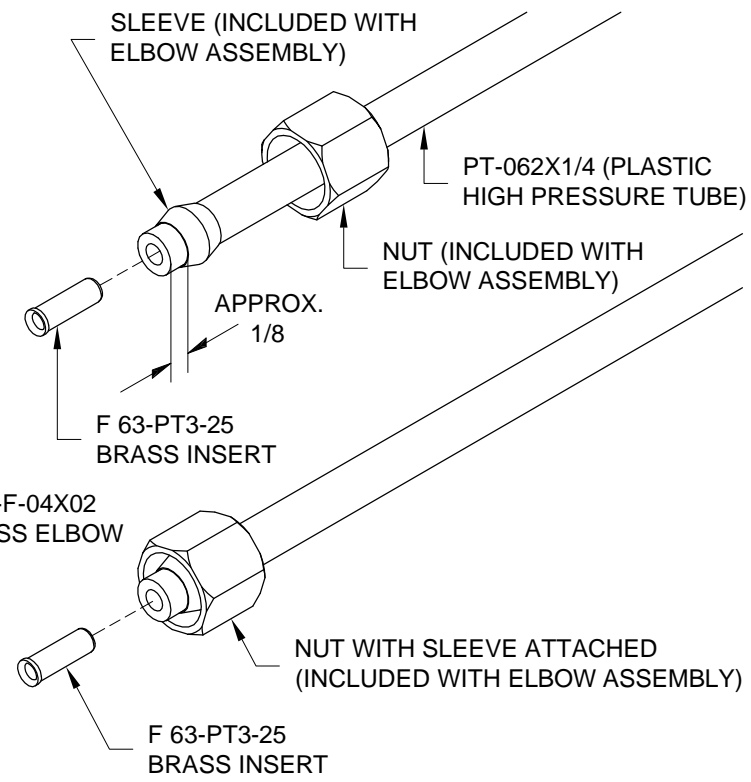

FIGURE 1: BRAKE LINE END FITTINGS
Step 1: Slide the nut and sleeve over the plastic tube, then locate the sleeve about 1/8 inch from the end as shown in Figure 1.